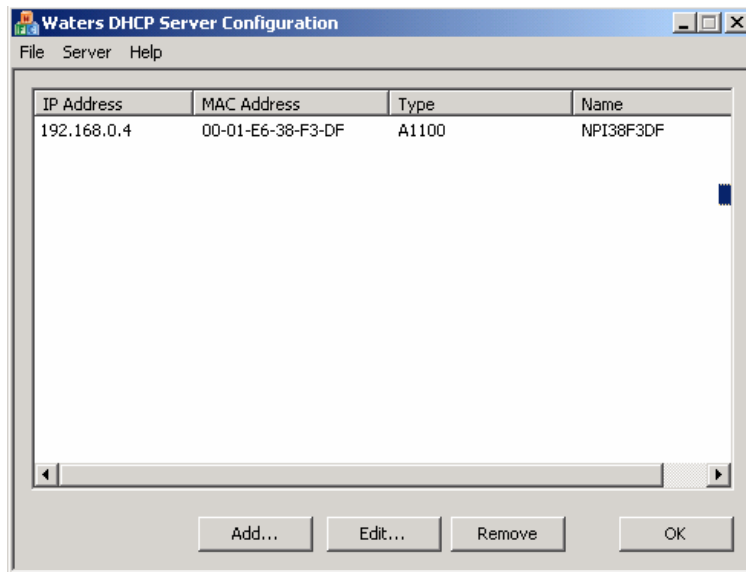

Figure 10: Waters DHCP Server Configuration Page after A1100 Type is Specified
Note (for users of the LAN Communication card): *The Waters DHCP Server does not assign an IP address to the detector unless the A1100 detector contains the JetDirect LAN card. If you have the LAN Communication card installed in the A1100 detector, you need to manually specify the IP Address and MAC Address. To do so, click **Add**. Enter the IP Address previously configured in the handheld controller (step 7 on page 4). Enter the MAC address determined using the handheld controller (step 5 on page 4). Select **A1100** as the instrument type. In the Serial Number/Unique Name field, enter a unique name to identify the A1100 detector and click **OK**. The A1100 detector now appears in the Waters DHCP Server Configuration dialog with the Type listed as 'A1100' (Figure 10). Resume this procedure at step 17 below.*
16. If the Serial Number/Unique Name field has an entry, click **OK**. The A1100 detector now appears in the Waters DHCP Server Configuration dialog with the Type listed as 'A1100' (Figure 10).
If the Serial Number/Unique Name field is blank, enter a unique name to identify the A1100 detector and click **OK**. The A1100 detector now appears in the Waters DHCP Server Configuration dialog with the Type listed as 'A1100' (Figure 10).